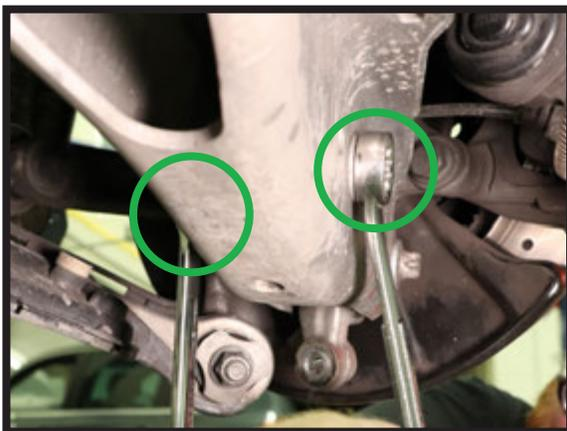

FIGURE 12
9. REMOVE LOWER STRUT BOLT. (FIGURES 12, 13)